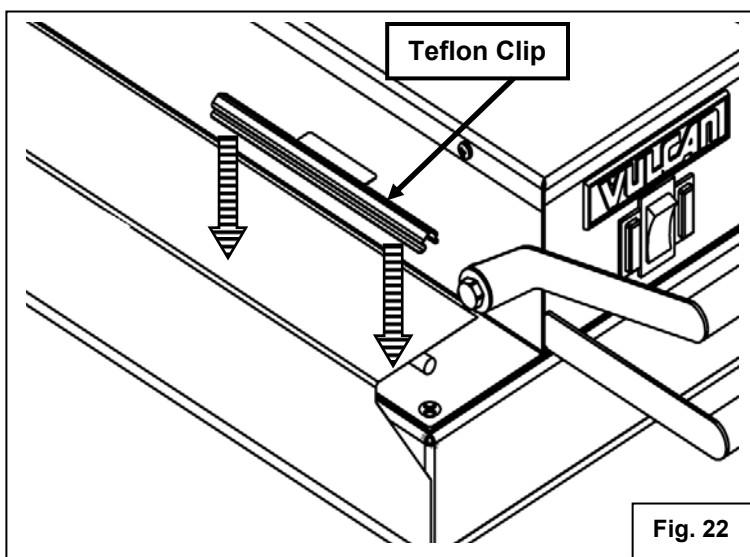

Fig. 22
7. Secure the Teflon sheet to the left side of the platen with the two Teflon clips (#944504). See fig. 22.